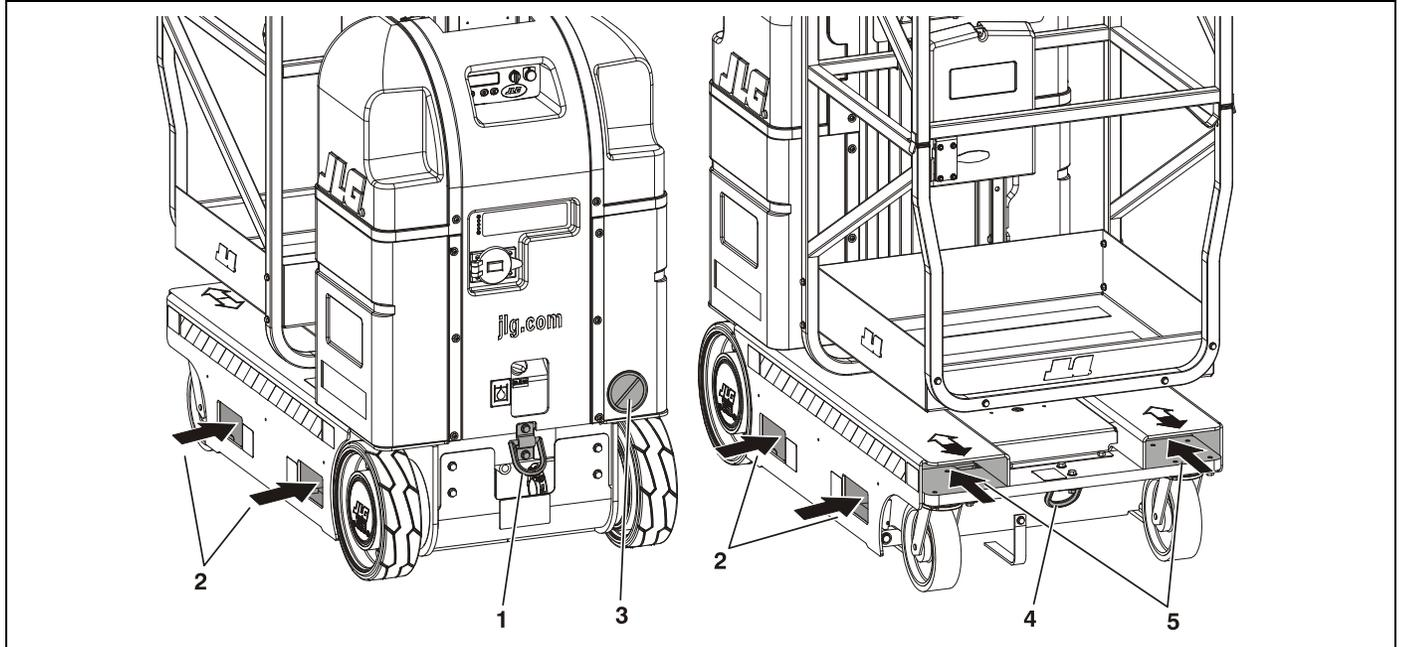

Figure 3-6. Forklift Truck Lifting Pockets and Machine Tie Down Loop Locations.
1. Secure machine with an adequate chain attached through the tie down loops located at the front and rear of machine. (See *Figure 3-6.*)
All MVL and MSP Model Lifts are equipped with wide fork-lift pockets running the length of the base frame and also through the sides of the base. (See Figure 3-6.) This allows the machine to be either transported around a work area or lifted onto a higher level using a standard fork-lift truck.